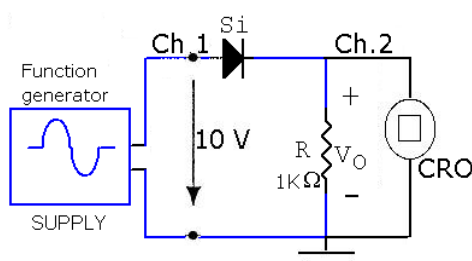

Fig.1
1. Connect the circuit as shown in Fig.1, adjust the power supply at 10 V.